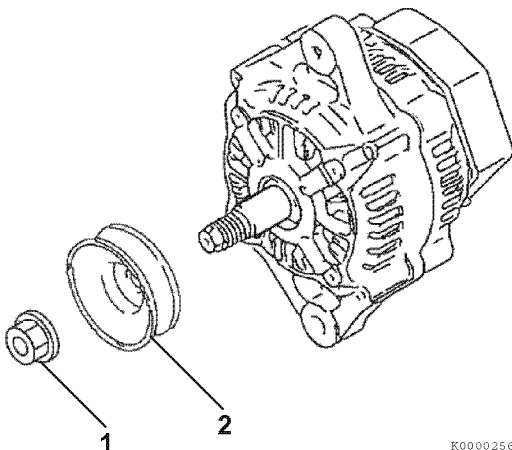

Figure 11-18
- Reassemble the pulley (**Figure 11-18, (2)**) and nut (**Figure 11-18, (1)**) to the shaft of the rotor assembly. Tighten the nut.